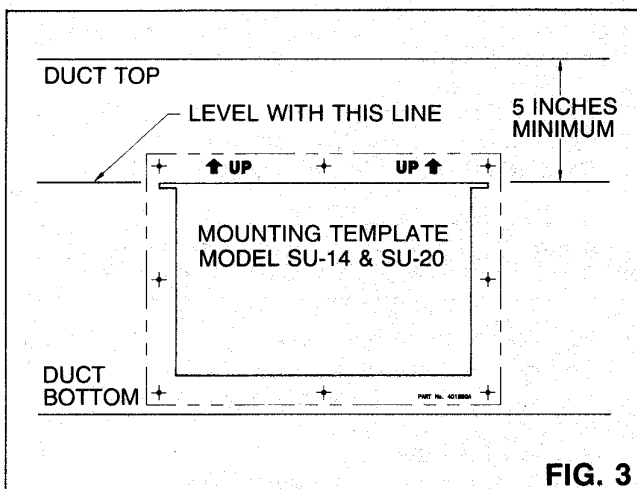

FIG. 3
When selecting a location on the duct, be certain that there is enough room for the water reservoir. There should be at least five (5) inches above the reservoir (see Figure 3) and the reservoir should not occupy more than 25 percent of the duct space. If this criteria cannot be met, you should order the "Under Duct Adaptor," Model 401930, in order to properly install the humidifier.
Once the installation location has been established, the mounting template is taped to the duct, as seen in Figure 3. The template must be leveled using the top of the cutout on the template. The template should be located so that the bottom of the reservoir cut-out is flush with the inside of the bottom of the duct. Since most ducts are insulated, about one (1) inch, must be accounted for when determining the location for the bottom of the reservoir cut-out.